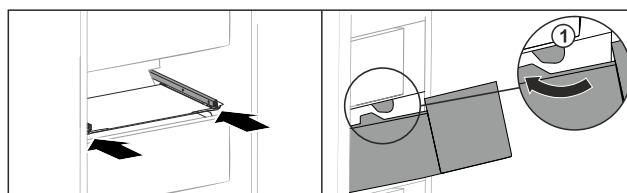

Fig. 169
- Guide drawer around the stoppers Fig. 169 (1).